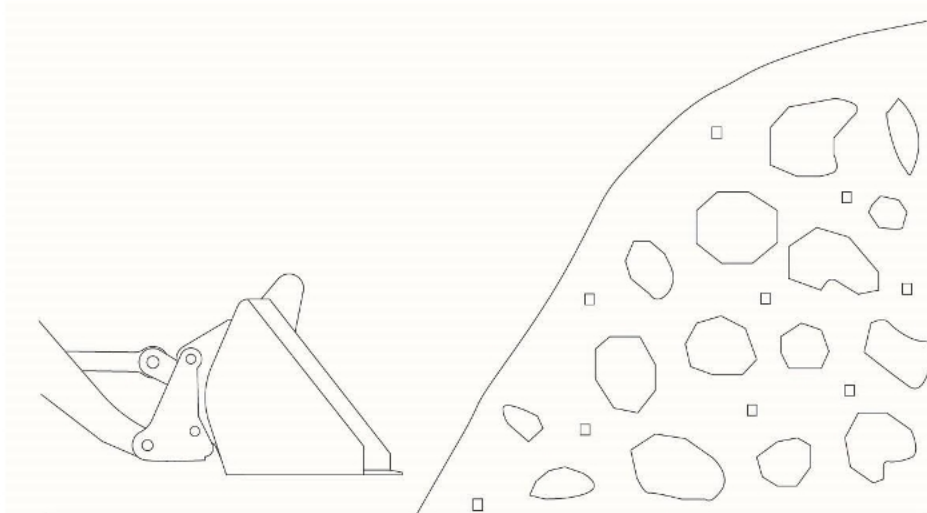

Figure 5-45 Loading operation (1)
Step 2: When the loader is moving forward and approaching the stockpile, put down the bucket, keep the bucket 30cm away from the ground, and stop the loader, as shown in Figure 5-45;